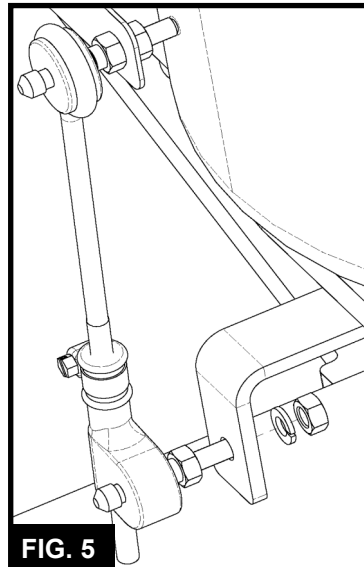

FIG. 5
6.5 Set length of linkage rod so upper and lower holes align with the pins (See FIG. 5).
6.6 Install the 1/4" Lock Washer and 1/4" Hex Nut to the in on the P-boot (See FIG. 5).